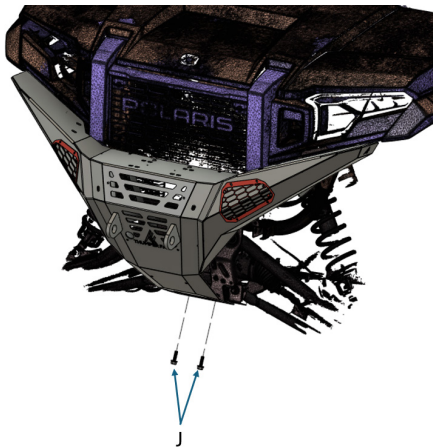

FIG 16 - Mount Bumper Body to vehicle using a 15mm Socket. Do not fully tighten
With the help of a friend, place the bumper into position and fasten the bumper body to the frame using 2 x M10x30mm flange head bolts (J). Loosley tighten using a 15mm socket. Bumper will still need to be physically held in position at this stage, it may take the help of 2 people if big winch option is selected as winch will need to be mounted to bumper before installing bumper on vehicle (FIG 16).